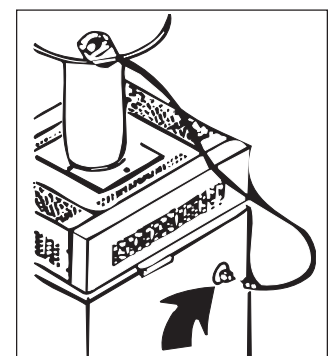

Figure 7. Draft hood switch receptacle.
- f. Indoor models, size 175 and 250 only, require an adapter cable (included with product). The cable connects the blocked vent safety switch (BVSS) on the bell of the external draft hood to the 6-position Molex plug on the side of the unit (see Figure 7). Refer to instruction sheet included with cable.